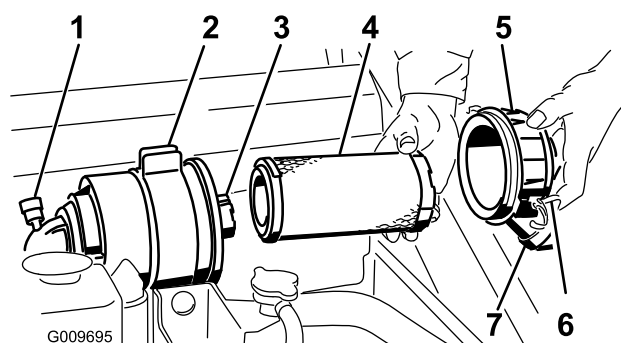

Figure 32
Important: Service the air cleaner filter only when the service indicator shows red (Figure 32). Changing the air filter before it is necessary only increases the chance of dirt entering the engine when the filter is removed.
4. Release the latches on the air cleaner and pull the air cleaner cover off of the air cleaner body (Figure 32).
1. Gently slide the primary filter out of the air cleaner body (Figure 32). Avoid knocking the filter into the side of the body.
4. If you are replacing the safety filter, carefully slide the new filter into the filter body (Figure 32).
5. Carefully slide the primary filter over the safety filter (Figure 32). Ensure that it is fully seated by pushing on the outer rim of the filter while installing it.
6. Install the air cleaner cover with the side indicated as UP facing up and secure the latches (Figure 32).